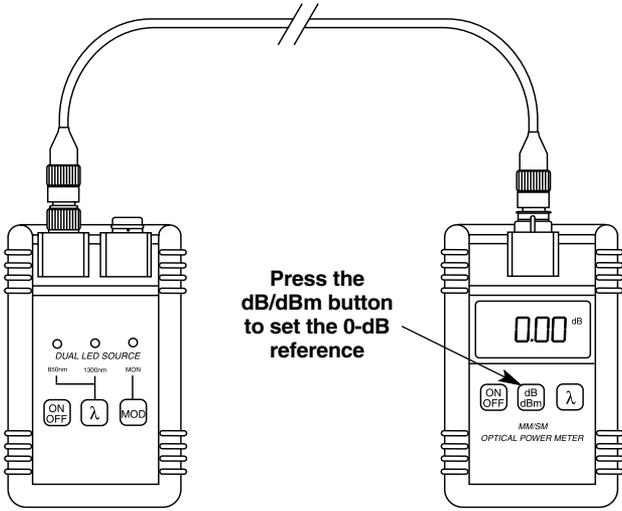

Figure 5-2. Storing the reference level for the reference cable.
2. Make sure that the source is outputting in continuous-wave (CW) mode. Set the meter to the appropriate wavelength (using the λ button) and to dBm units (using the dB/dBm button). Note that the dBm output of the reference cable should be within acceptable limits.
3. To store the reference level, press the dB/dBm button on the meter for about three seconds until the “r” symbol appears on the LCD panel. The display should read “0.00dB,” as shown in Figure 5-2.